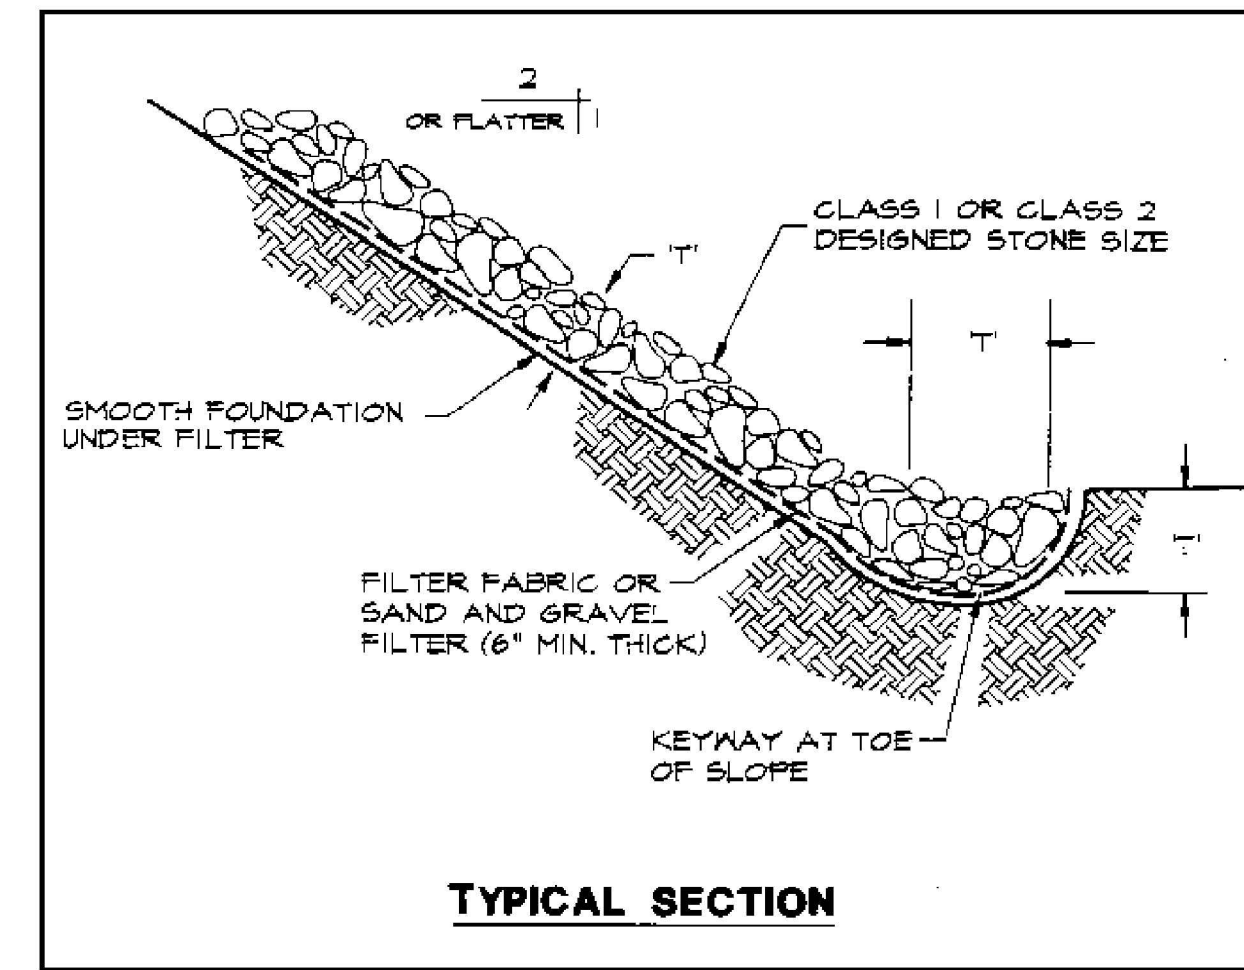

Figure 6.15b. Riprap Slope Protection
- To stabilize slopes with seepage problems and/or noncohesive soils (see Figure 6.15b).